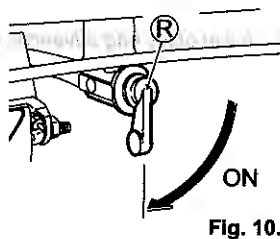

Fig. 10.
- 2 Set Fuel cock (R) to "ON". (See Fig. 10.)